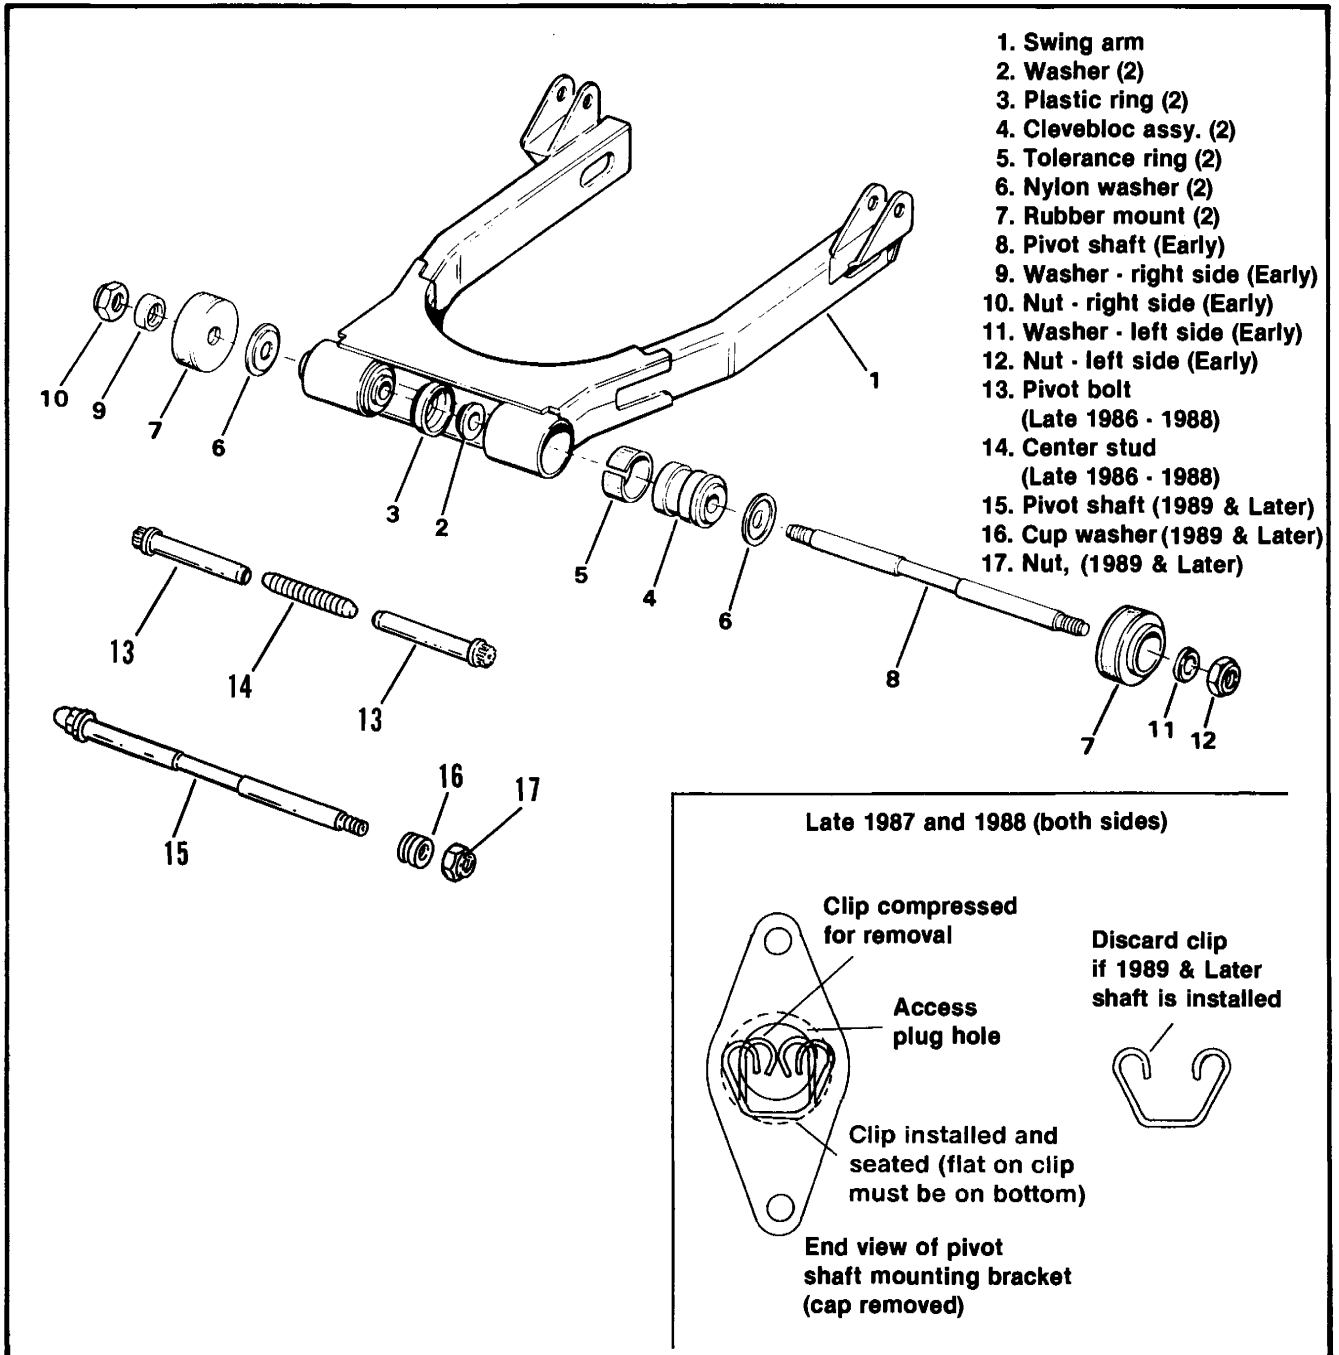
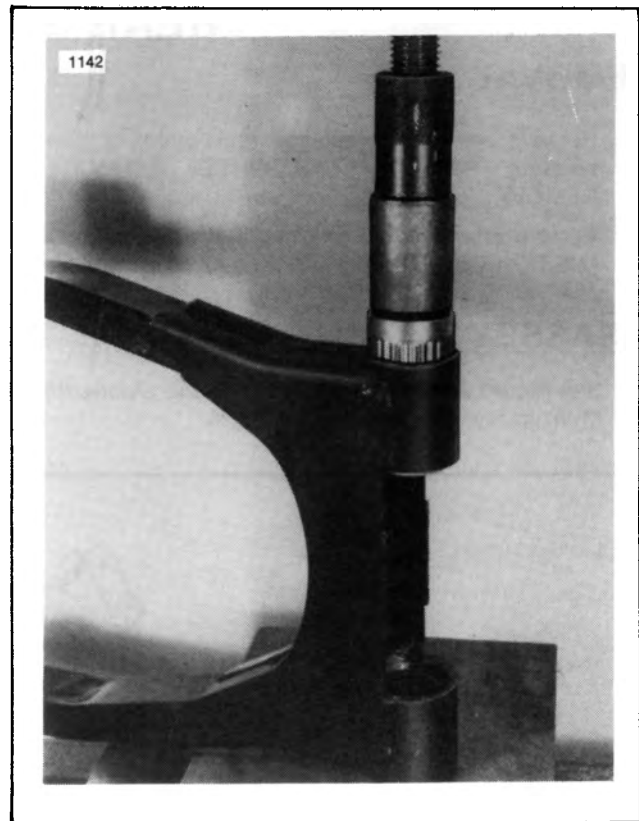

Figure 2-78. Rear Swing Arm
Figure 2-80. Pressing in Clevebloc
1. See Figure 2-78. Pry the washer (2) and plastic ring (3) from one side of the swing arm.
1. See Figure 2-80. Place a new tolerance ring (5, Figure 2-78) on one clevebloc and using the PRESS PLUG press the washer, plastic ring and clevebloc into one side of swing arm.